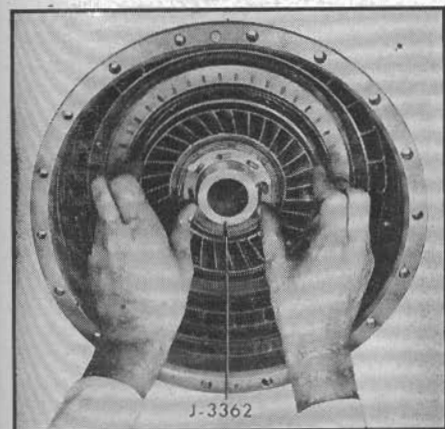

Fig. 16 Installing secondary pump to primary pump hub. 1950-52
4. Using loading tool J-3362, install secondary pump to primary pump hub, Fig. 16, and rotate secondary pump, making sure that pump rotates freely in a clockwise direction and locks when rotated in a counterclockwise direction.